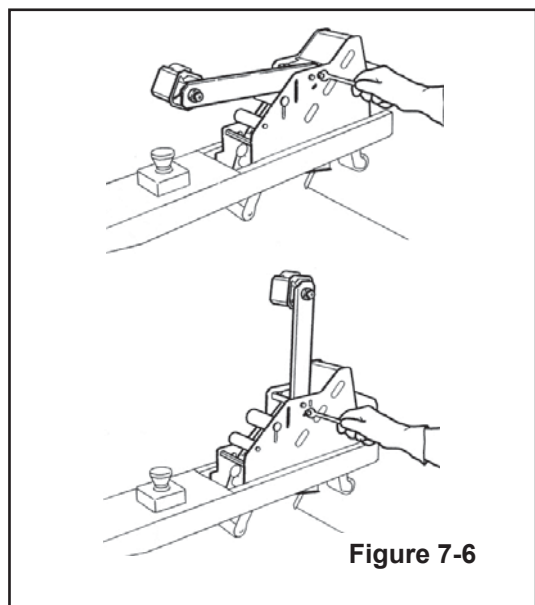

Figure 7-6
4. Ensure that the tape drum bracket assembly (located on the upper and lower taping heads) is mounted vertically as shown in **Figure 7-6**.